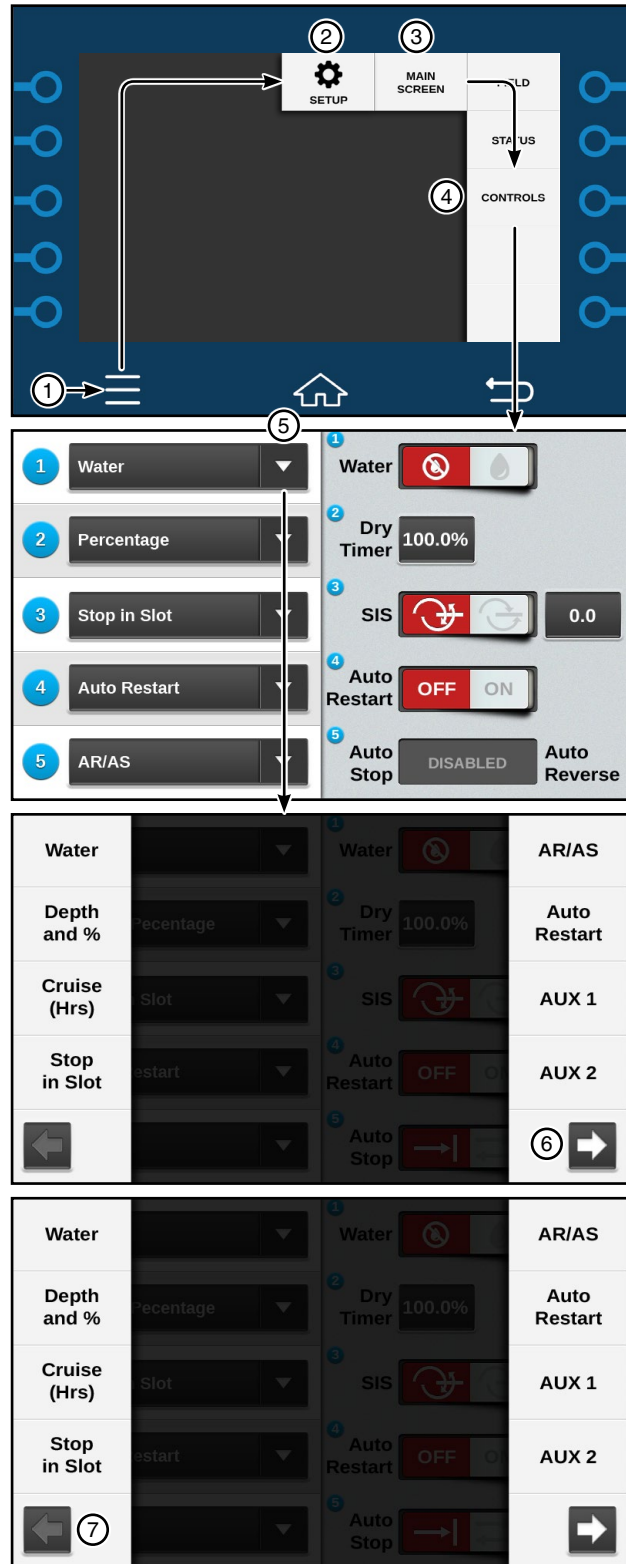

Figure 36-1 1. Menu 2. Setup 3. Main Screen 4. Controls 5. Drop-Down Menu 6. Next 7. Previous
3. On the Controls screen select up to five buttons that you want to appear on the Main Screen. The Controls drop-down Menu number relates to the location of the control on the Main Screen. See Figure 36-1.